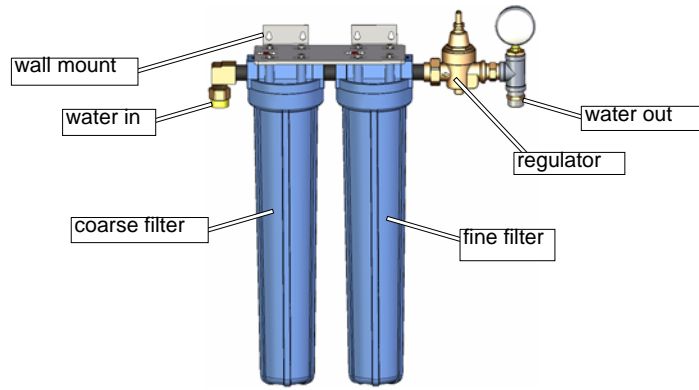

Figure 5-50: Incoming Water Filters - Wall Mounted
1. Water from your local source is piped into your building and is plumbed to two OMAX wall-mounted pre-filters (a 3 micron “course” filter and a 1 micron “fine” filter). See Figure 5-50.